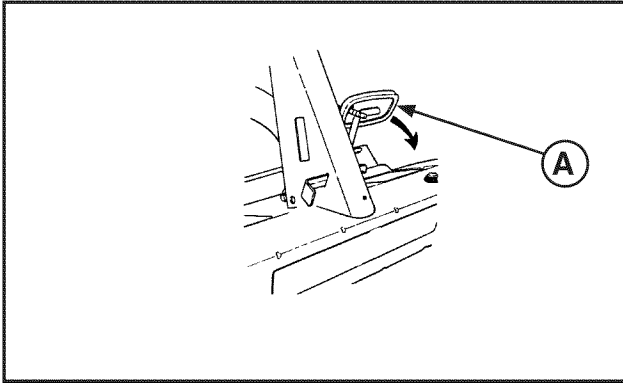

FIGURE 9
1. Fully depress the clutch/brake pedal (A, Figure 9).